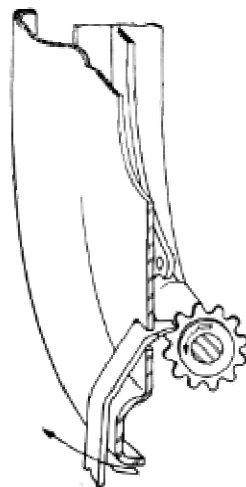

Figure 3
*The Adjusting Screw*—Fig. 3. This adjustment centralizes the clearance between the brake lining surface and brake drum to compensate for lining wear.
8. *At All Wheels:* Expand the brake shoes by turning notched adjusting screw toward rim of backing plate, using Bendix adjusting tool or screw driver (inserted through backing plate), moving outer end of tool toward center of wheel (Fig. 3). Continue until brake drum can just be turned by hand.